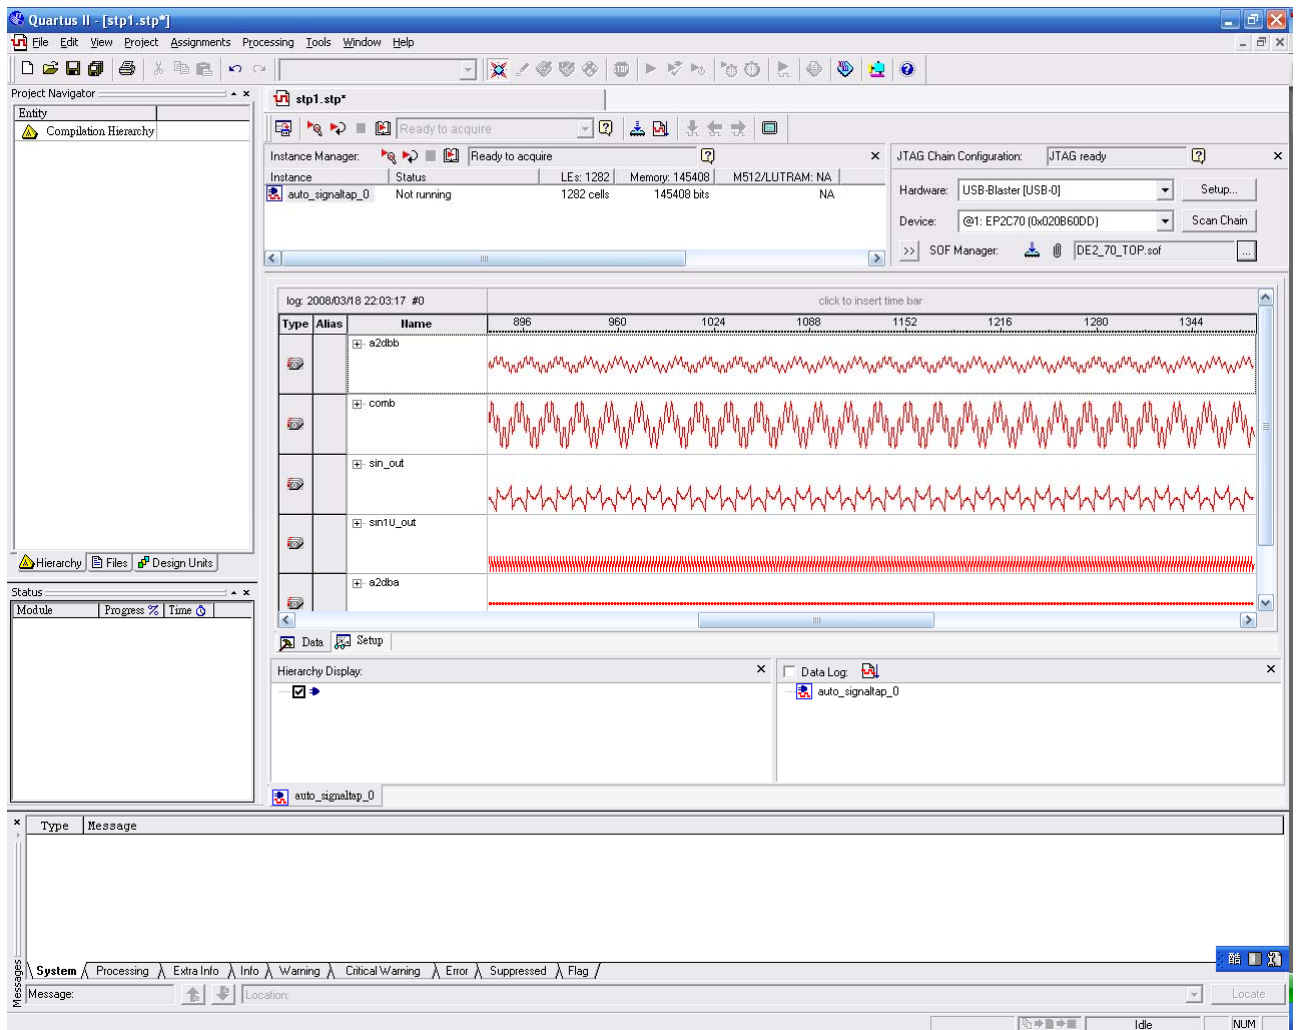

Figure 4.4 Connect ADA-GPIO with DE2-70
6. Open **stp1.stp** from `<path>\Demonstrations\DE2_70_ADA`, as shown in Figure 4.4.